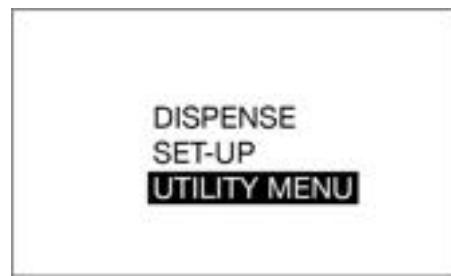

FIG. 23
4. Select the UTILITY MENU option (FIG. 23).